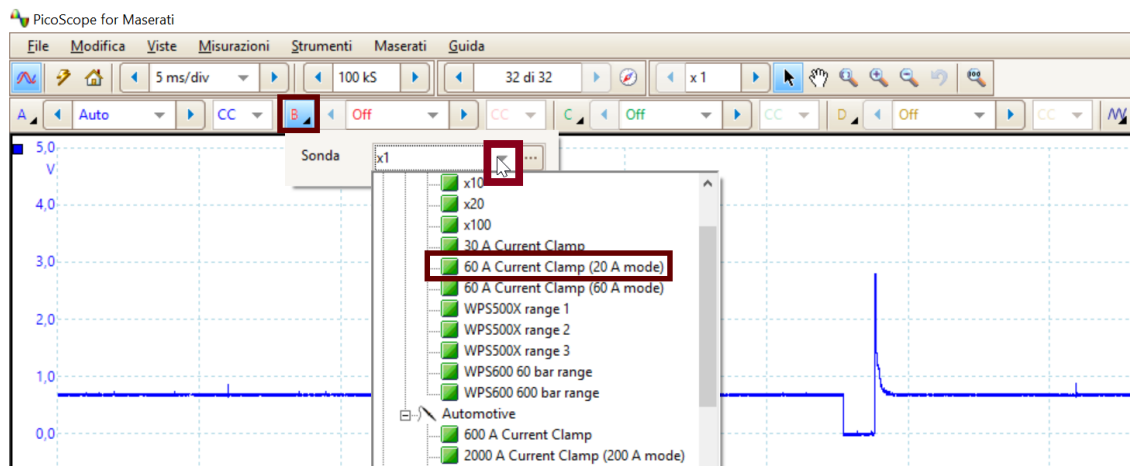

Figure 15: settings of the 60 A current clamp.
3. Choose correct claps on PicoScope software. Click on channel B and choose the clamp 60 A Current Clamp (20 A mode).The settings are shown in **Figure 15**.
3. Choose correct claps on PicoScope software. Click on channel B and choose the clamp 60 A Current Clamp (20 A mode). **The settings are shown in Figure 15.**